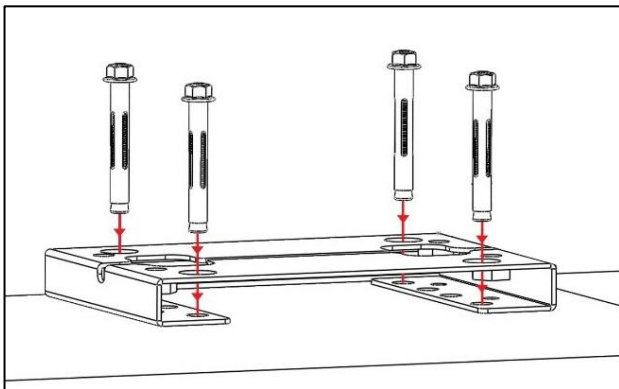

Fig 7
- Fit motor mounting plate back into place and fit and tighten anchor bolts (as per figures 7 and 8).